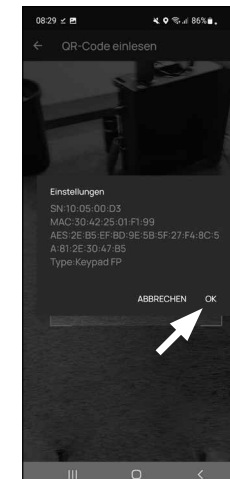

Fig. 9
- 12 After the QR code has been scanned, a message appears containing data regarding your cylinder; confirm this with "OK" at the bottom right (Fig. 9).